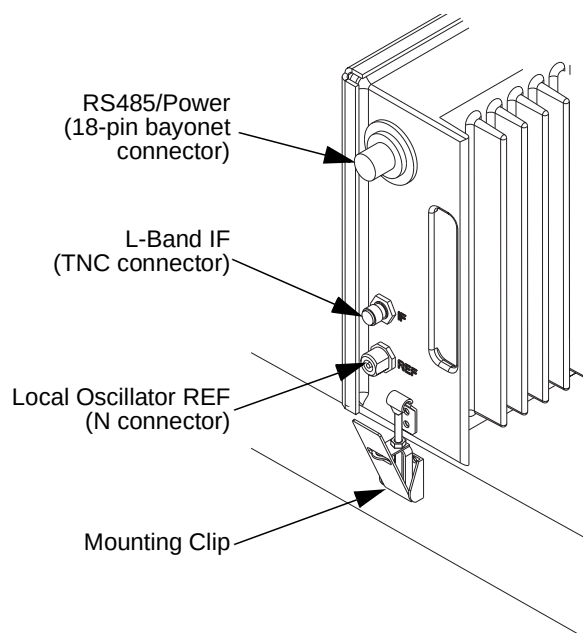

Figure 3. Transmitter Connectors
Three cables connect each transmitter (TX) to the Sector Radio Interface Unit (SRIU). Attach the cables from the SRIU to the transmitter as indicated in Figure 3 and described in Table 2.